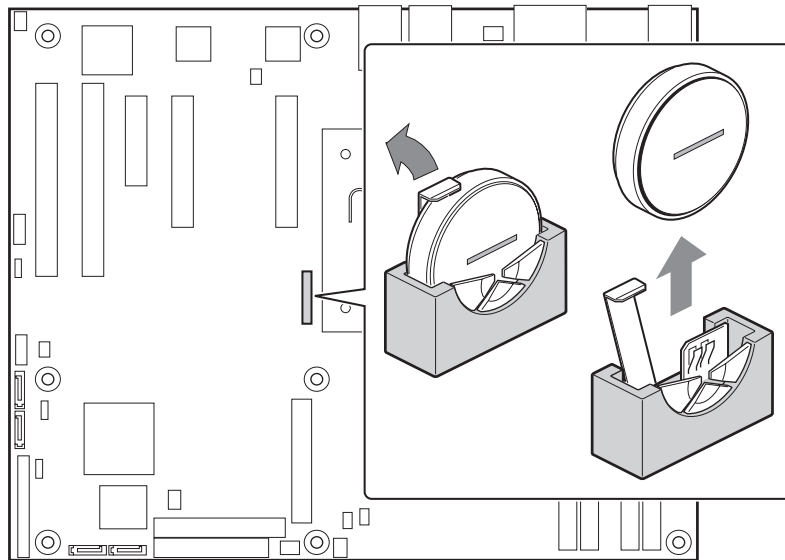

Figure 6. Removing the Battery
5. Lift the battery retention mechanism (see Figure 6).